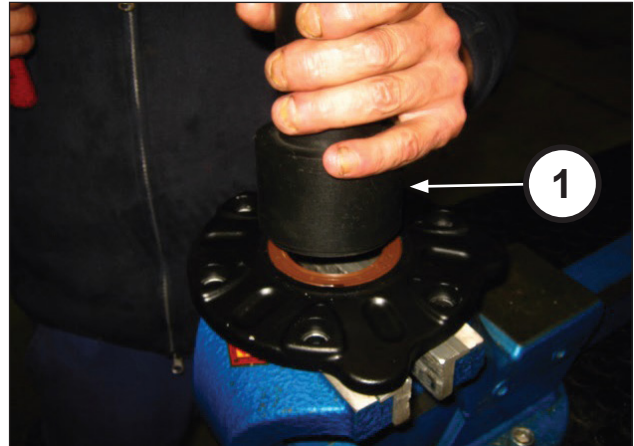

Fig. 83
Insert the oil seal inside the pinion cover using the special tool code 27548200 (pos. ①, Fig. 83).